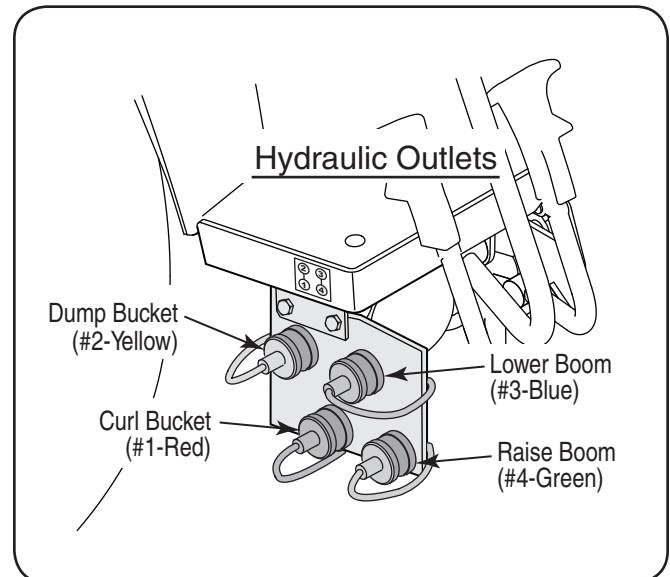

Figure 6
- Slowly drive the tractor forward while guiding the bottoms of masts into the RH and LH mounts. Refer to Figure 6. Carefully lower the overhead lift to set the notches at the bottom of the masts partially onto the tubular bars of the mounts.
- Locate the color coded protective plugs in the female hydraulic couplers on the lower right side of the tractor, just in front of the right/rear tire. Refer to Figure 6.
- Using the color coded plugs and matching color coded washers on the loader hoses to guide you, remove the plugs and connect each loader hose to the appropriate hydraulic coupler. Refer to Figure 6.